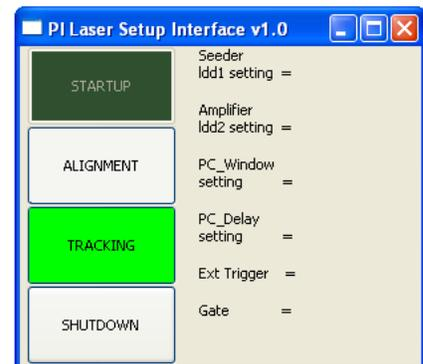

Figure D-3: PI laser Interface at Tracking Power
4. Turn on the SLR laser and set emission levels to tracking power (Figure D-3)